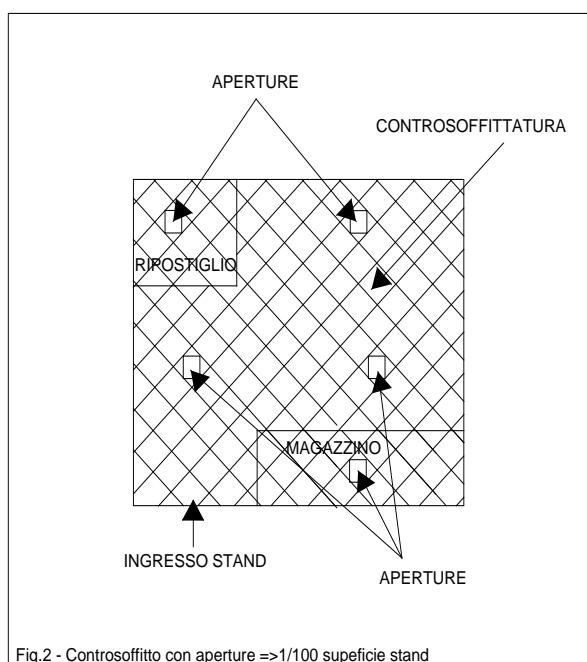

Fig.2 - Controsoffitto con aperture =>1/100 superficie stand
2. False ceilings in wood, metal and similar by creating specific openings for the evacuation of fumes for a total of 1/100 of the surface of the space concerned. These openings may be between 0.25 and 0.30 m² and may be evenly distributed over the entire stand area or the part of the stand with false ceiling (see fig. 2).